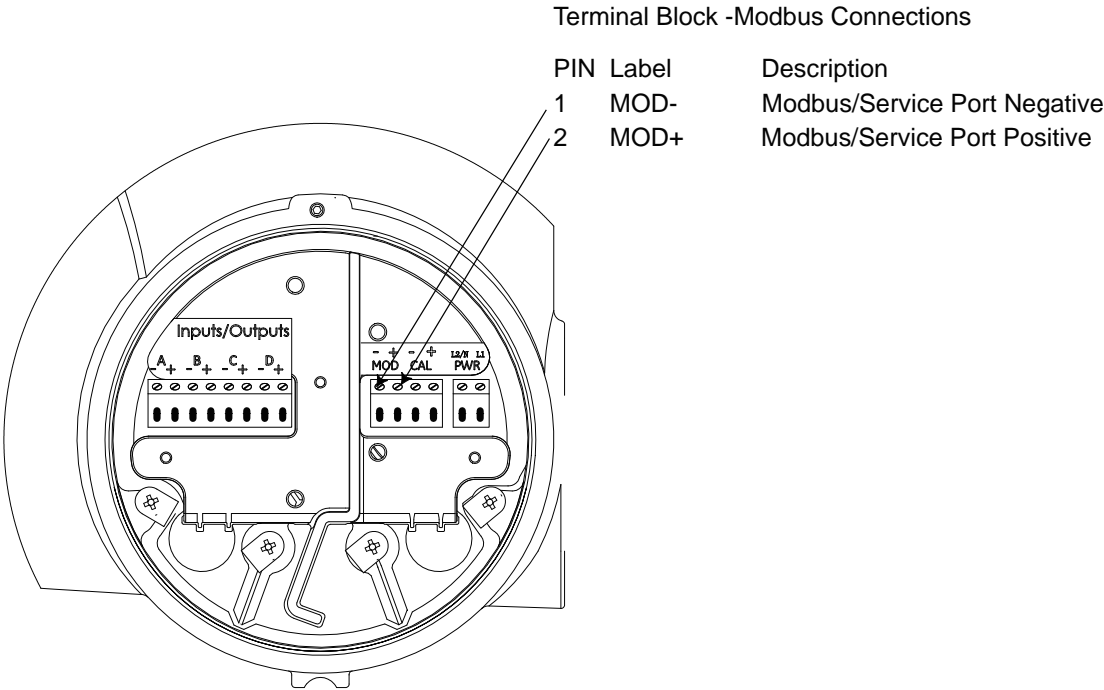

Figure 15: Modbus Connections
- 3. Feed one end of the cable through the conduit hole, wire it as shown in Figure 15 below.